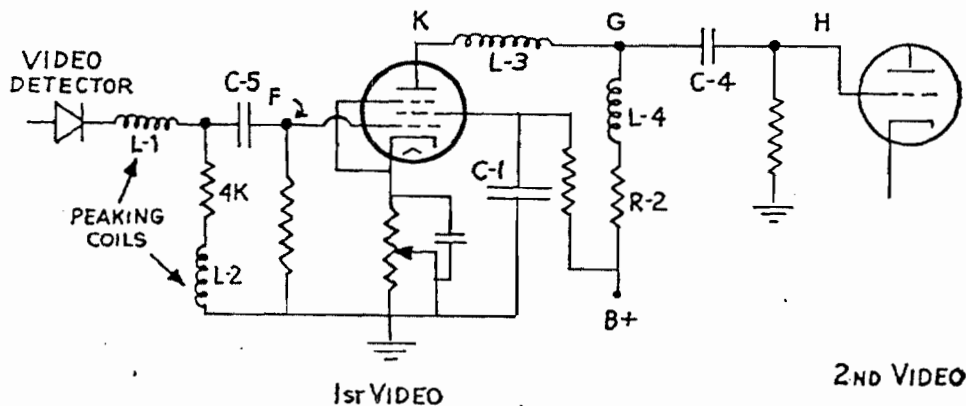

Figure 5—Video Section of Typical TV Receiver
Since the intermittent still appeared, the Television Analyst signal output is now switched to Video and the signal is injected into the video detector load. (See Figure 5). This is usually around a 4,000 ohm resistor and can easily be located because it will have a video peaking coil associated with it. (Note:—For
Now to use the Television Analyst once more to check the coupling capacitor (C-4) from the plate of the first video amplifier to the grid of the second video amplifier. Inject the video signal on the plate side (G) of the coupling capacitor (See Figure 5). The intermittent condition again appears, placing the blame for intermittent loss of signal to the coupling capacitor C-4 which is opening up intermittently.